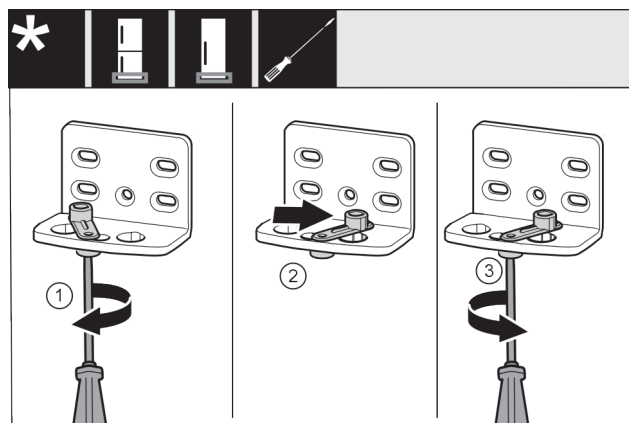

Fig. 19
- ▶ Use screwdriver to loosen the screw Fig. 19 (1).
- ▶ Lift the door closing aid Fig. 19 (2) and turn 90° clockwise in the hole.
- ▶ Tighten screw Fig. 19 (3) with screwdriver.